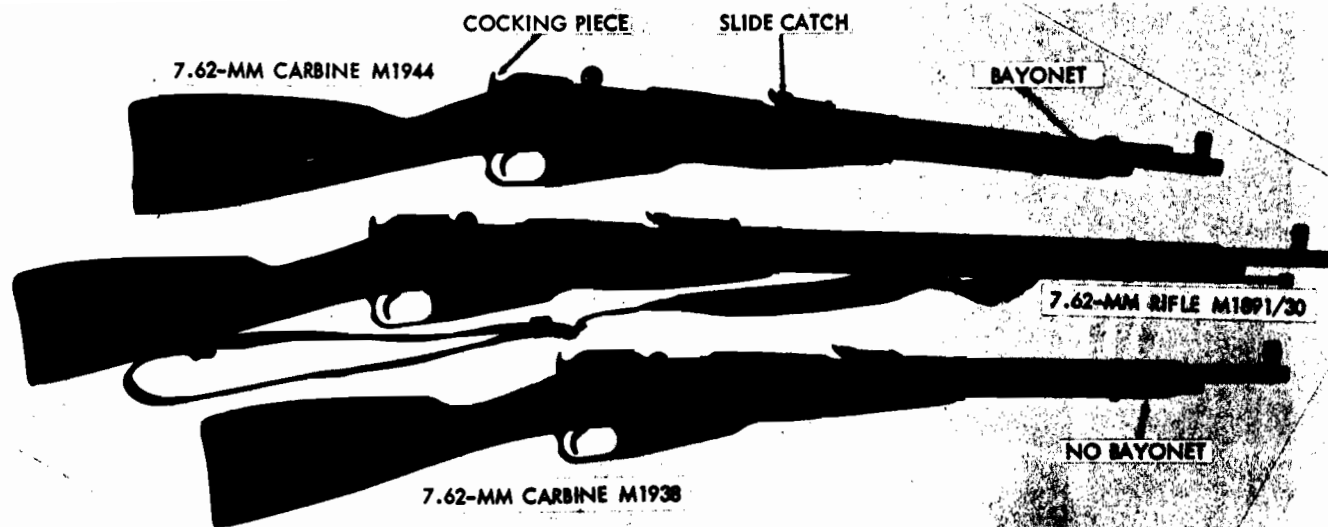

Figure 48. Bolt action rifles.
a. The Soviet-designed Model 1944 carbine (fig. 48)--a rifle by U.S. standards--is the final version of a rifle originally adopted by the Russian Army in 1891. There have been many variations on the original weapon: Rifles, short rifles, carbines, and sniper's rifles. Only the Model 1944 carbine is still in extensive use. Earlier versions, such as the Model 1891/30 rifle (fig. 48) and the Model 1938 carbine (fig. 48), will occasionally be encountered. Instructions for the Model 1944 carbine also apply to these earlier weapons. These old Russian weapons are simple, rugged, and reliable.